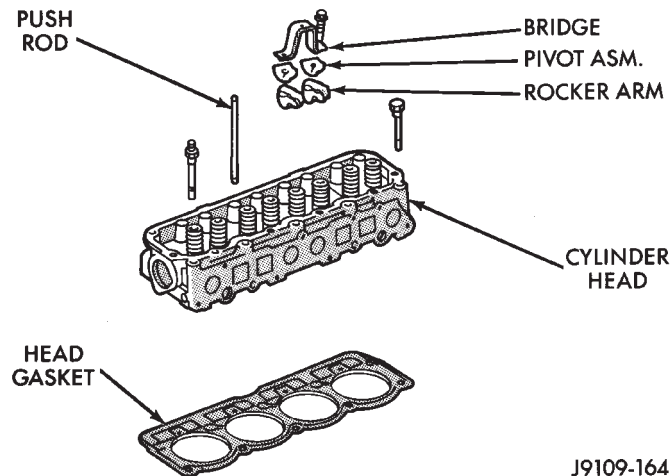

Fig. 35 Engine Cylinder Head Assembly
(14) Disconnect the coolant temperature sending unit connector.
(15) Remove the engine cylinder head bolts.
(16) Remove the engine cylinder head and gasket (Fig. 35).
(17) If this was the first time the bolts were removed, put a paint dab on the top of the bolt. If the bolts have a paint dab on the top of the bolt or it isn't known if they were used before, discard the bolts.
(18) Stuff clean lint free shop towels into the cylinder bores.